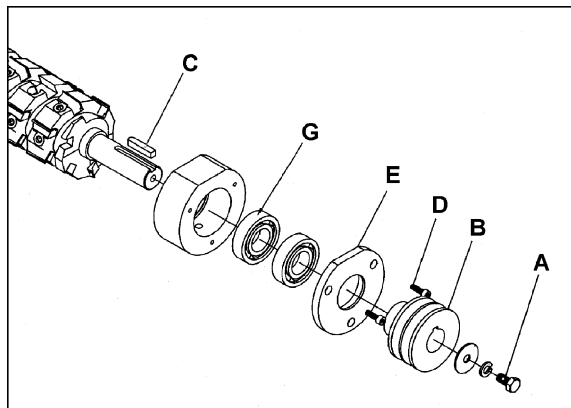

Figure 33
7. Loosen hex cap screw (A, Figure 33) and remove pulley (B, Figure 33) and key (C, Figure 33).
8. Loosen screws (D, Figure 33) on both sides and remove bearing cap plates (E, Figure 33).
NOTE: Figure 33 shows the pulley end of the cutterhead. The procedure is similar for breaking down the opposite end of the cutterhead - refer to assembly drawing on page 39 for the specific parts.
IMPORTANT: If the bearings (G, Figure 33) need replacement, it is strongly recommended this be done by qualified service personnel. The bearings are press fitted and must be removed with an arbor press.